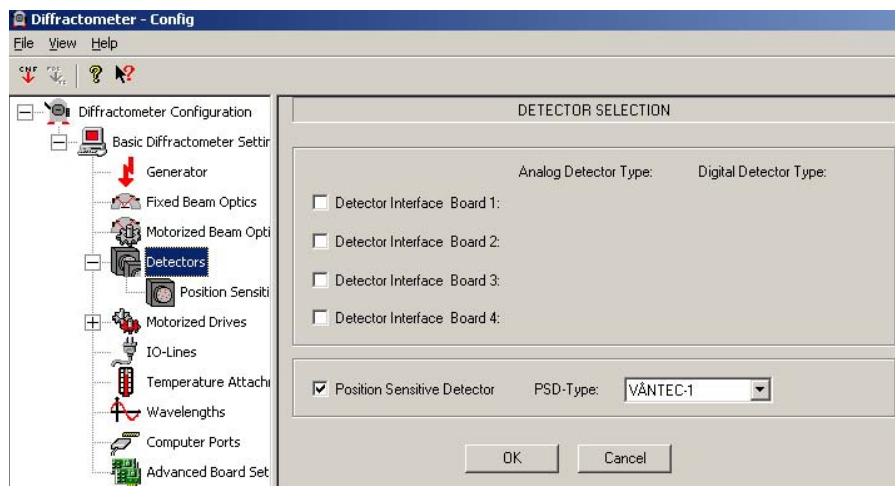

Figure 6.3 - Detector menu in Configuration program
- 1.1 From the main Config menu, select the **Detectors** menu (see Figure 6.3).